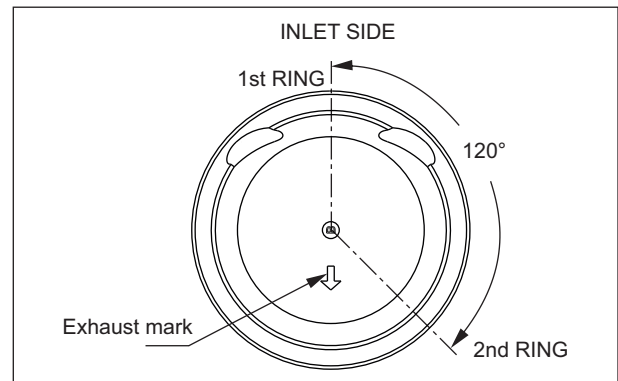

Fig. 3.97
- Align the ring piston 1st in such a way that the end gap of the ring is located at the inlet side of the piston (opposite to exhaust mark) as shown. (Fig. 3.97)
- In similar manner, align the ring piston 2nd in such a way that the end gap of the ring is located at 120 degree from the first ring end gap as shown. (Fig. 3.97)